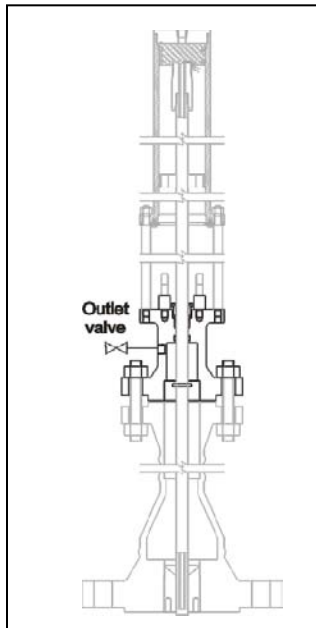

Figure 4
- 2.4.1 Install a valve in the outlet port of the flange (see Figure 4). Make sure the valve is closed.